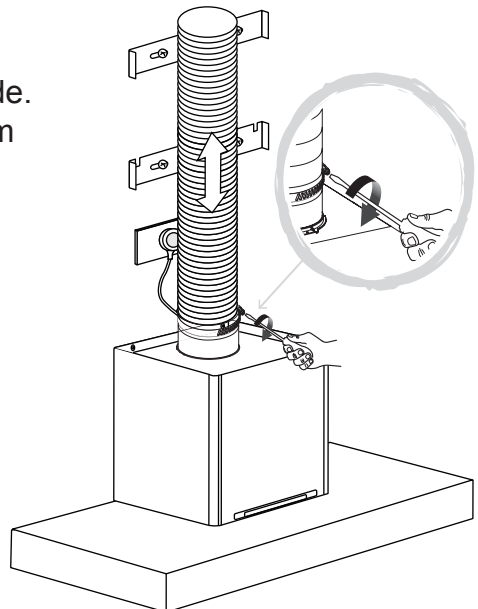

Fig.5
- If need exhaust air to the outside. Connect Ø150 mm or Ø125 mm flexible duct to the adapter and fix it (Fig. 5).